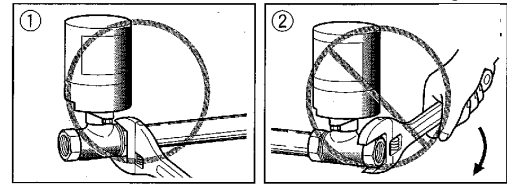

Fig.17
- Mount an actuated valve with a wrench firmly held around the valve end, which is jointed with a pipe. Holding the wrench around another valve end, which is open to the atmosphere, may cause a too excessive load to the valve body (**Fig.17**).